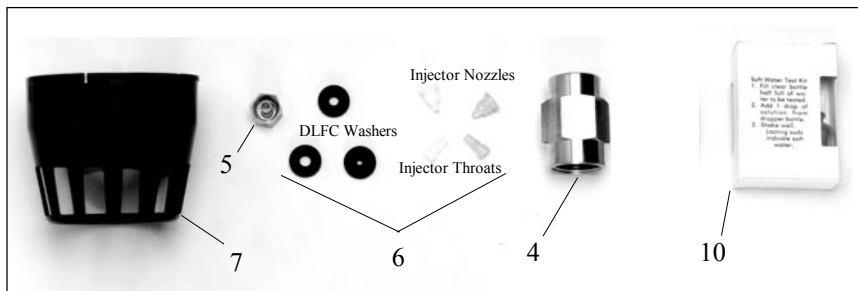

Figure 2-1 Components common to all softeners
Each softener assembly consists of the following components common to all softeners (see Figure 2-1):
5. Install the required injector throat and nozzle (see Table 1-1) – these are included in the supplied kit (see Figure 2-1). Screw them into the injector body until snug, but do not overtighten.